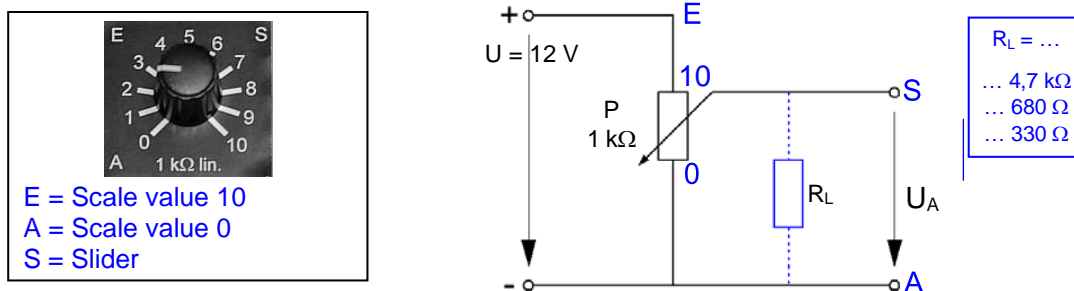

Fig. 4.2.2.3: Potentiometer with loaded output
- Apply a voltage of $U = 12\text{ V}$ to the input of the potentiometers $P = 1\text{ k}\Omega$, as shown in Fig. 4.2.2.3 (check the set value, on a multimeter).